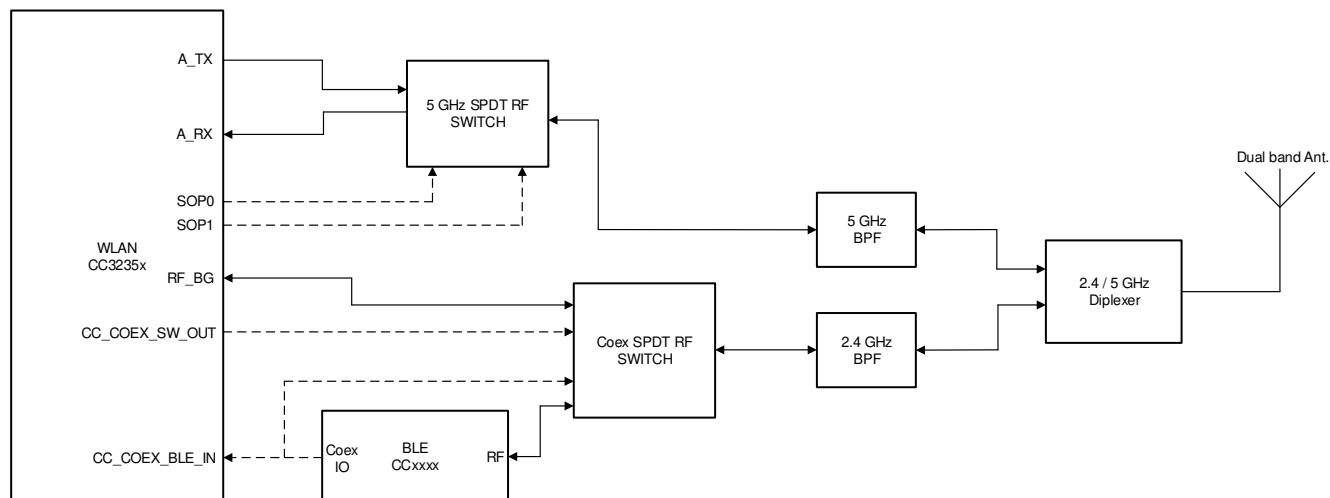

Figure 9-2. Single Antenna Coexistence Solution with 5GHz Wi-Fi
- 5GHz Wi-Fi band (see 図 9-2)
Figure 9-2 shows the single antenna implementation of a complete Bluetooth® low energy and WLAN coexistence network with the WLAN operating on either a 2.4- or a 5GHz band. The SOP lines control the 5GHz switch. The Coex switch is controlled by a GPIO signal from the BLE device and a GPIO signal from the CC3235x device.